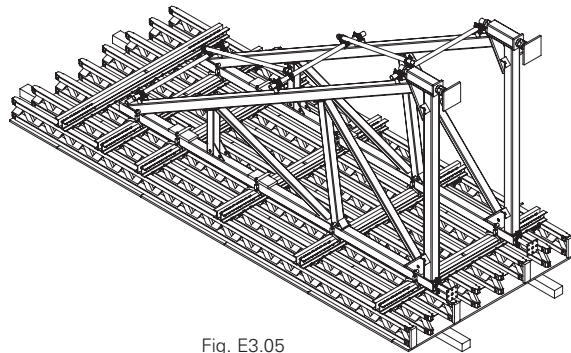
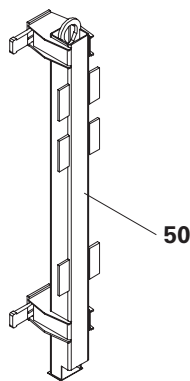

Fig. E3.05
Fig. E3.07
4. Loosen or remove connections to the system (49).
5. Release the brace frames from the formwork one by one and set them down with the crane. (Fig. E3.05 + Fig. E3.06)
6. Remove Connection Rail SB-2/TR,MX,D (50) from the formwork unit:
- Loosen the wedge and remove Bolt SB and Sleeve SB. (Fig. E3.07)